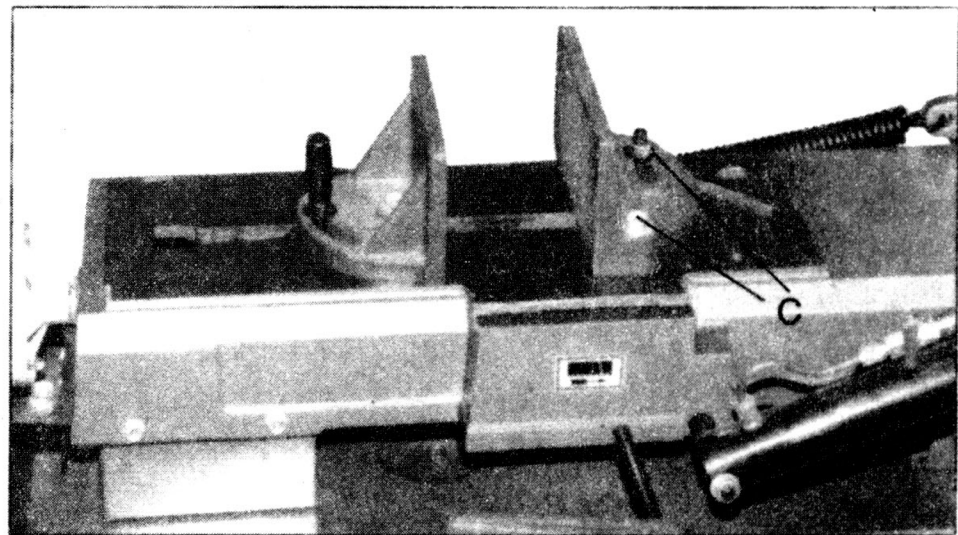

Fig.7
1. Remove bolt and nut assemblies (C, Fig.7).
2. Position vise and re-install bolt assemblies as pictured in Fig. 7.